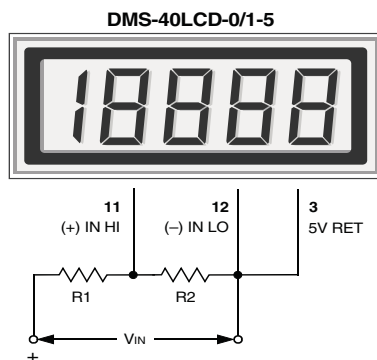

Figure 4. Input Attenuation Circuit
- 3. Engineering Scaling:** For measuring voltages greater than the full scale input range of a given meter, the input signal must be attenuated. A simple voltage divider (similar to that shown in Figure 4) will scale the input to within the range of the selected meter. R1 and R2 should be precision, ±1%, metal film resistors with absolute TCR's less than 50ppm/°C. See Ap Note 4 for more information on engineering scaling.